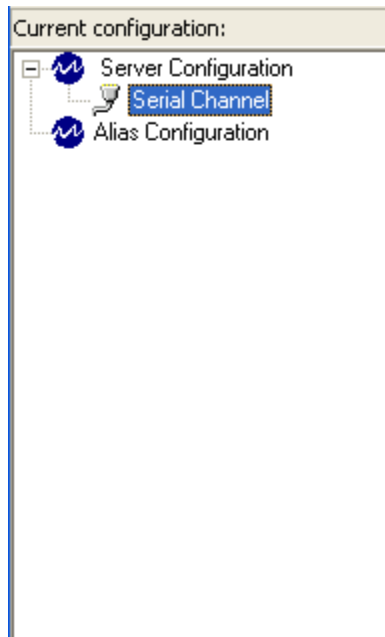

Figure 28 - New Serial Channel Object
8. Click on the **OK** button. The object is created and will appear as a child of the **Server Configuration** item as shown in Figure 28.